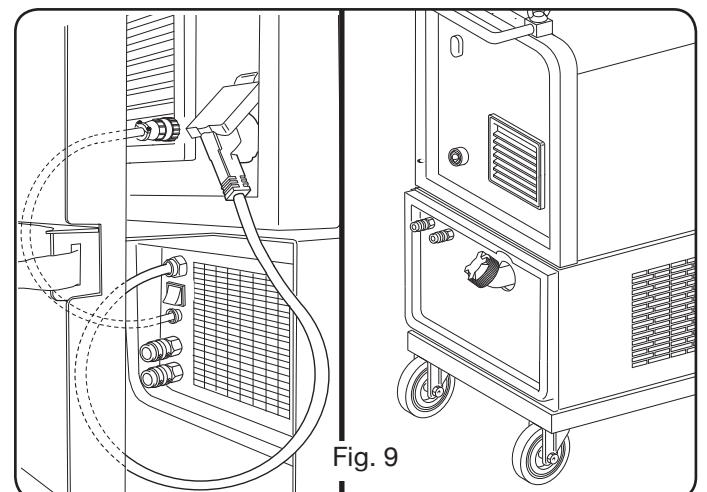

Fig. 9
3.5 MONTAGE AV KYLENHET (ART. 1683 - LEVERERAS PÅ FÖRFRÅGAN - ART. 318-319) (Fig.9)